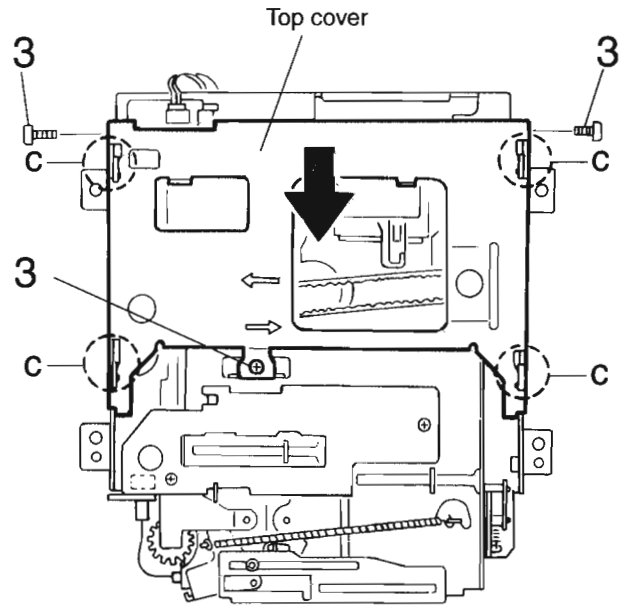

Fig.4
■ Removing the Top cover (see Fig.4)